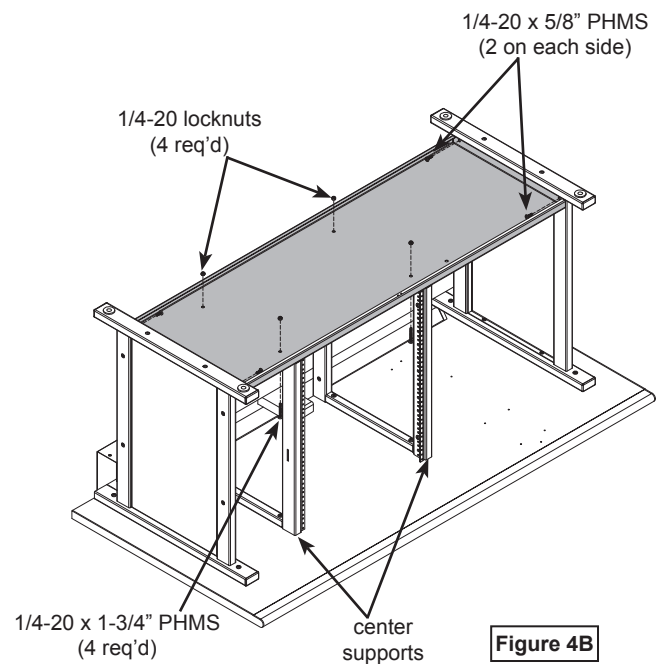

Figure 4B
- B. Attach panel to legs with (4) 1/4-20 x 5/8" PHM screws. **Figure 4B**.
- C. Using (4) 1/4-20 x 1-3/4" PHM screws and (4) 1/4-20 locknuts, attach the bottom panel to the center supports. (The screws will install from inside the desk and the nuts will thread on from the bottom.)